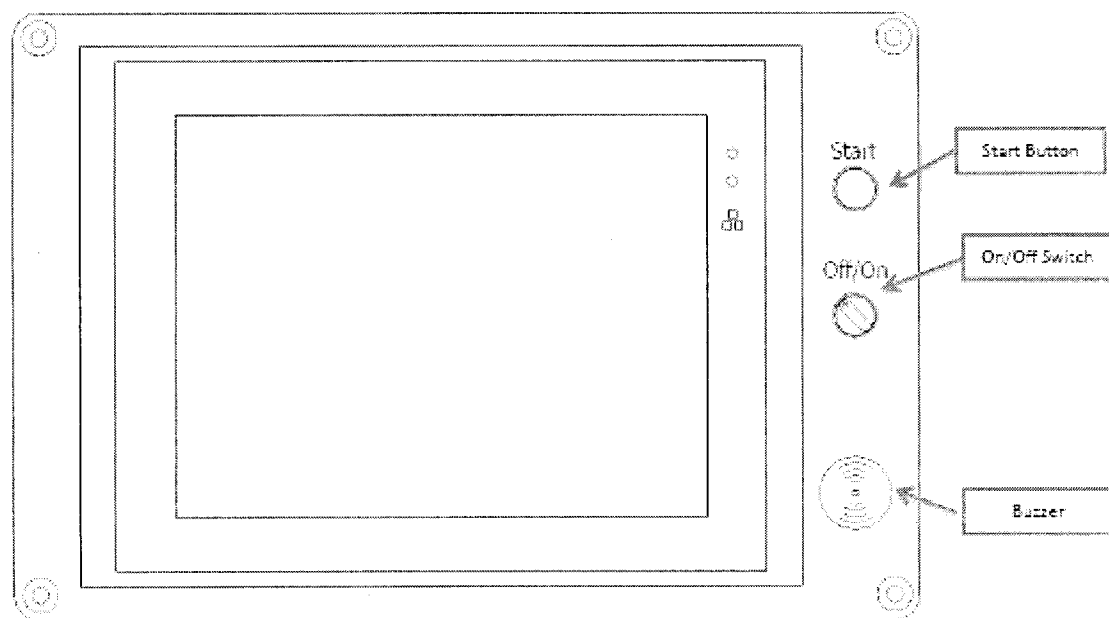

Figure 20
- the detailed description makes reference to Fig. 20 only in par. [0774], and without any reference to the elements in the figure;